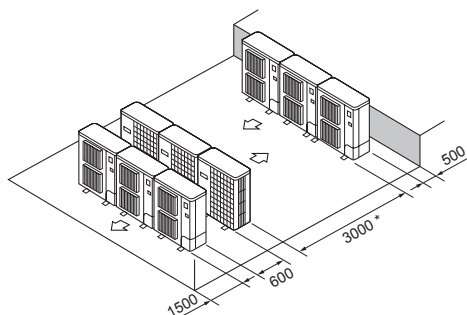

Fig. 2-18
- (6) Multiple parallel unit arrangement (Fig. 2-18)